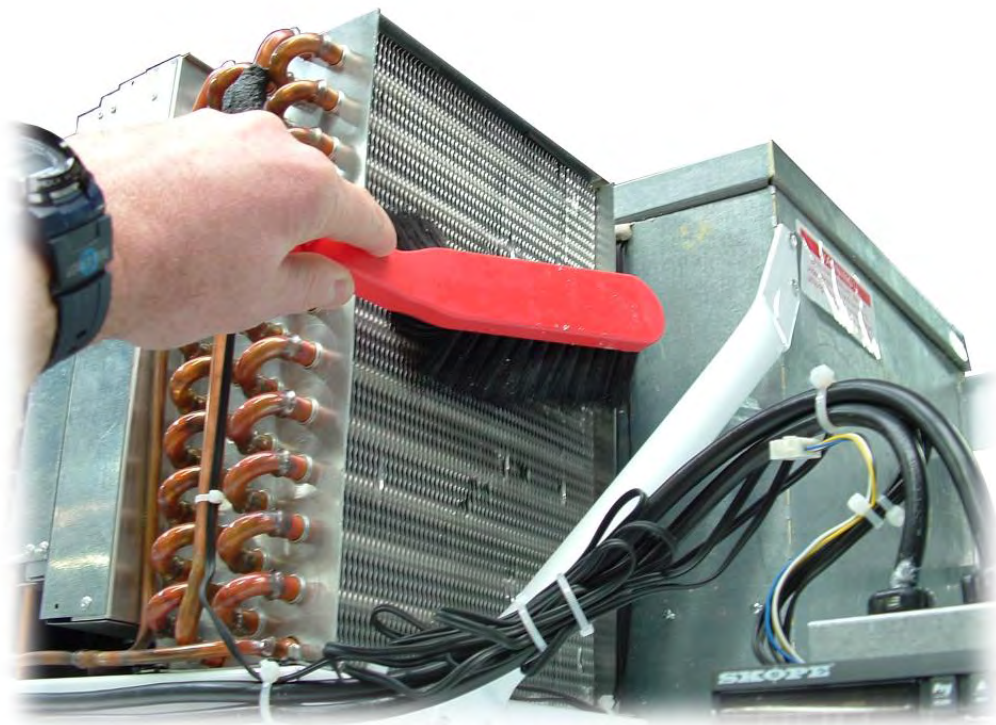

Figure 13: Cleaning the Condenser Coil
To ensure trouble free performance, the condenser coil should be brushed clean once a month (see Figure 13) and blown clean by qualified service personnel every 6 months. SKOPE recommend a preventative maintenance check every 6 to 12 months. If the electronic controller display flashes '**cht**' the condenser coil must be cleaned immediately.
4. The condenser coil is now accessible for cleaning (see Figure 13).